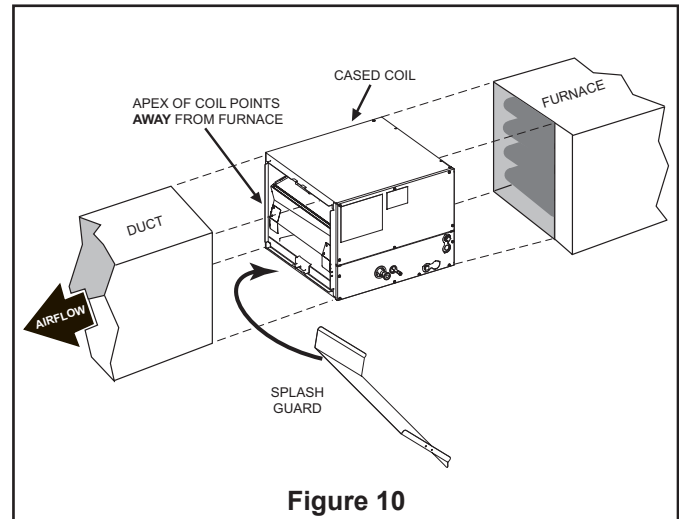

Figure 10
2. Attach the coil and furnace in the orientation shown in Figure 10. For S-Series furnaces, bend flanges to accommodate installation as shown in Figure 5.